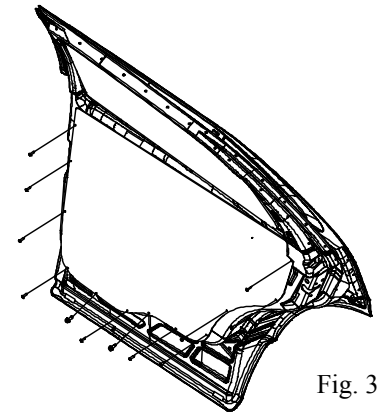

Fig. 3
- C. Attach the remainder of the door panel, from top to bottom with the supplied screws (3X72), Type A-self tapping, sometimes it is necessary to drill a 3/32" pilot. (See Fig. 3)